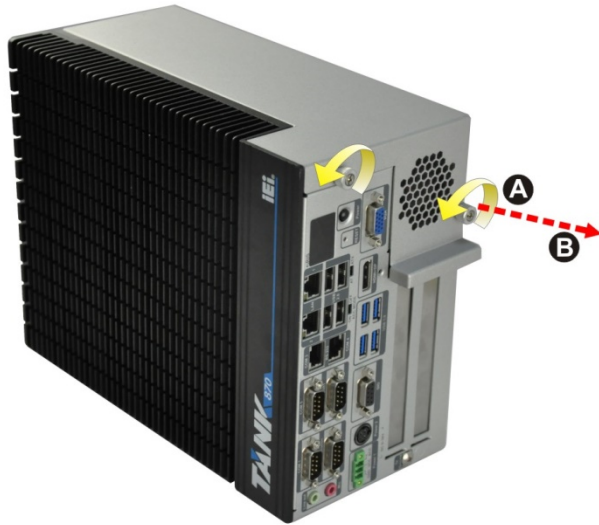

Figure 3-1: Unscrew the Cover
- Step 1:** Loosen the two thumbscrews on the front panel, slide the cover outward, and then lift the top cover up gently (**Figure 3-1**).
- Step 1:** Loosen the two thumbscrews on the front panel, slide the top cover outward, and then lift the top cover up gently (**Figure 3-1**).